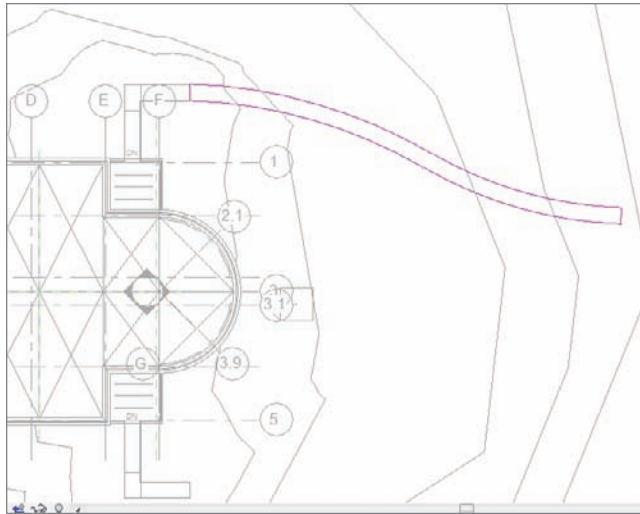

FIGURE 18.12 Sketching the subregion
5. Draw a path similar to the one shown in Figure 18.12. (It does not have to be exact.)